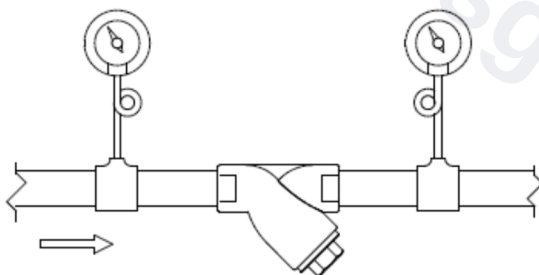

Fig. 1
1. Clogging inside the product can be known from the differential pressure measured, when pressure gauges are installed in upstream and downstream of the product. [See Fig. 1 in “7. Piping Example.”]